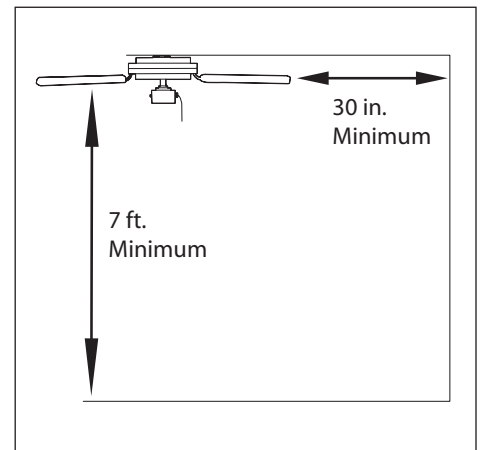

Figure 1.3
3. Choose a suitable location - Ensure the blades will be at least 30 inches from any obstructions. Ensure the blades will be at least 7 feet above the floor (Figure 1.3).